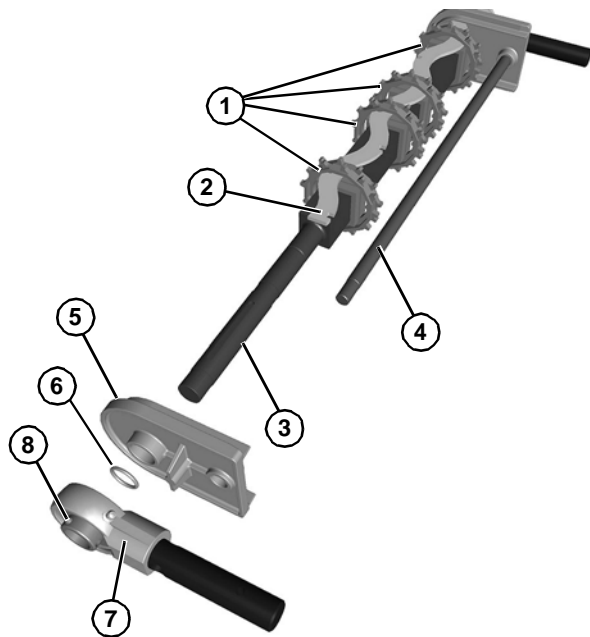

Figure 72
1. Assemble sprockets (**Figure 72, item 1**) to the slots of alignment bar (**Figure 72, item 2**), and install assembly onto drive spindle (**Figure 72, item 3**).
2. Install pinch guard shaft (**Figure 72, item 4**).
3. Slide the tracking plate (**Figure 72, item 5**) onto the drive spindle and pinch guard shaft.
*When installing tracking plate, be certain O-ring (**Figure 72, item 6**) is installed.*
4. Slide the shaft assembly (**Figure 72, item 7**) onto the drive spindle and tighten set screws (**Figure 72, item 8**) on bearing.